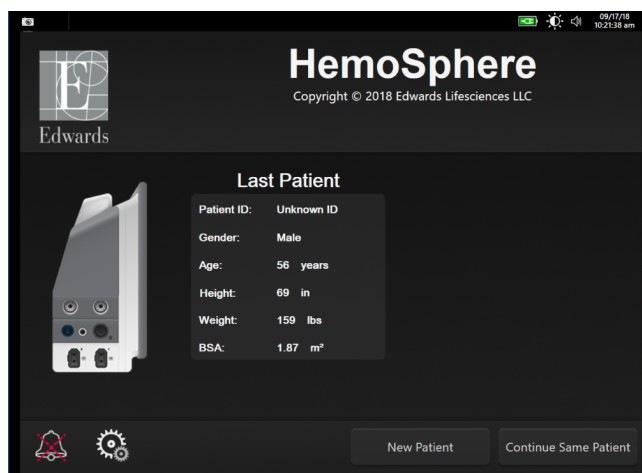

Figure 6-1: New or continuing patient screen
After the system is turned on, the user has the option to either continue monitoring the last patient or to start monitoring a new patient. See Figure 6-1 on page 127.
1. After turning on the monitor, the new or continuing patient screen appears (Figure 6-1 on page 127). Touch **New Patient** and continue to step 6.